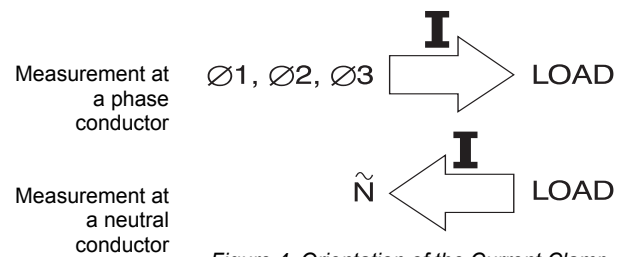

Figure 4. Orientation of the Current Clamp
5. Make sure that the arrow marked on the jaw of the Current Clamp points toward the load for phase measurements (toward the source) for non-phase measurements. (See Figure 4.)
- ie clamp jaw points toward the load for phase measurements. (See Figure 4.)